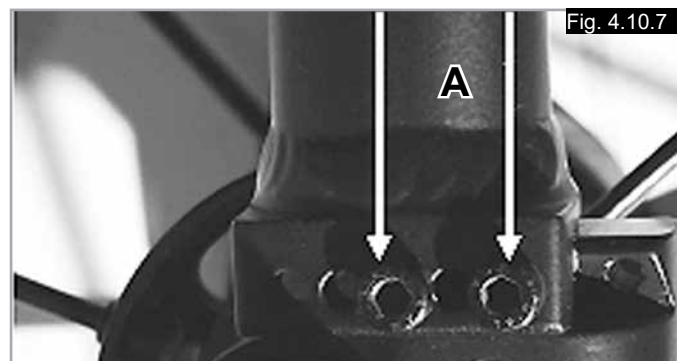

Fig. 4.10.7
To adjust the centre of gravity (COG) remove the 2 screws, (A) and move the bracket into preferred position, (Fig. 4.10.7). Refit and tighten the screws (5 Nm).